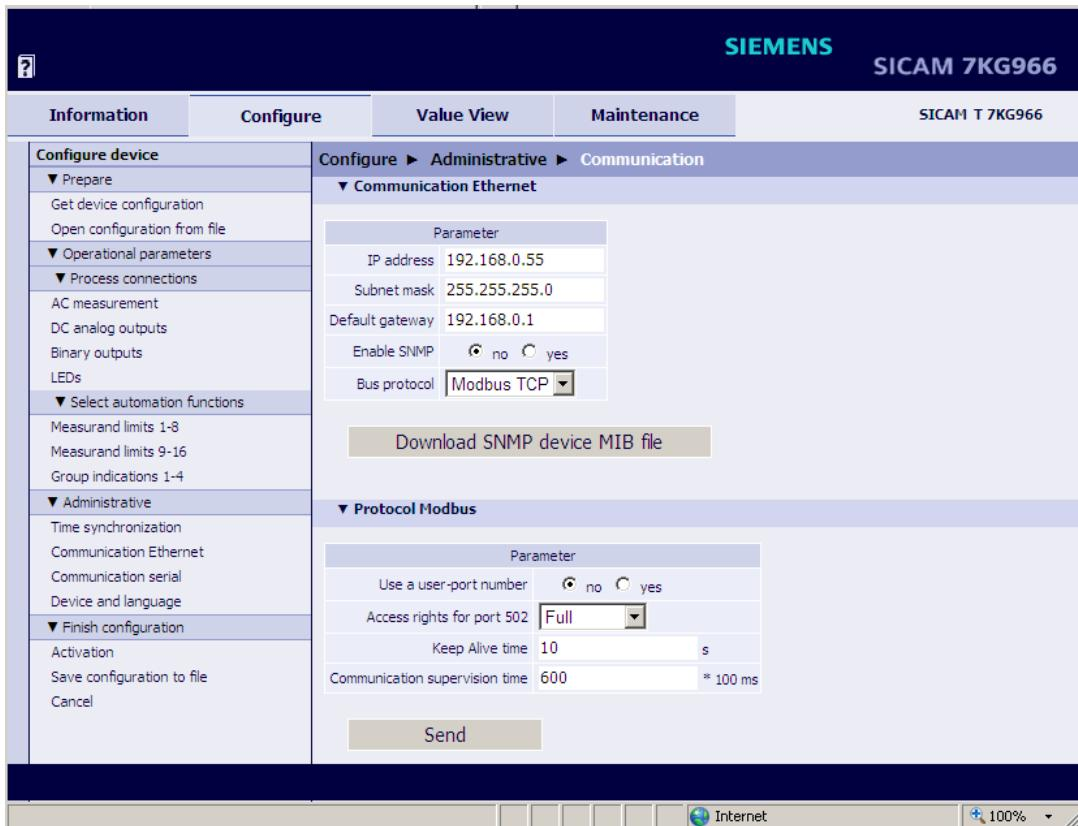

Figure 7-40 Configure Tab, Communication Ethernet via Modbus TCP Input/output Window
- ✧ In the **Communication Ethernet** input/output window, click the **Download SNMP device MIB file** button (see Figure 7-40).
#### Ethernet Communication with Bus Protocol Modbus TCP (see Figure 7-40)